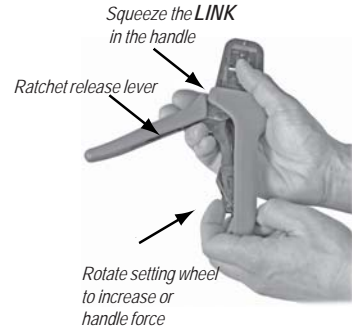

Figure 9
This hand tool is factory preset to 25 to 45 lbf. (111 to 200 N) preload. It may be necessary over the life of the tool to adjust tool handle preload force. (See Figure 9)
1. Hold the hand tool in the palm of your hand as shown in Figure 9. Using the index finger squeeze the **LINK** towards the top of the hand tool frame. This will release the preload adjustment wheel.